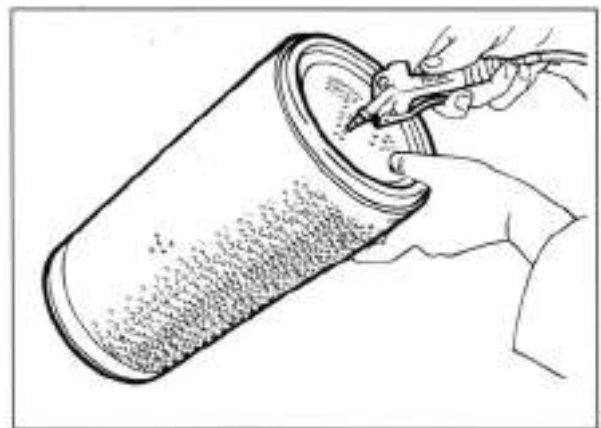

Fig.40
3. Clean cartridge (F) as follows: Blow air with slight pressure inside the cartridge from a safe distance (Fig. 40).